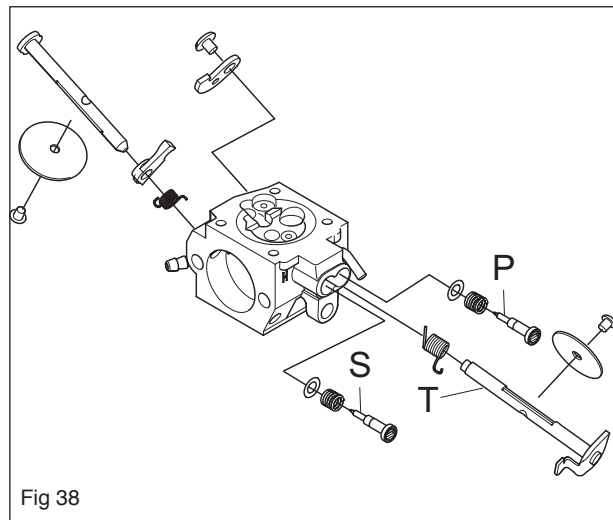

Fig 38
If necessary, dismantle throttle valve T and the High (S) and Low (P) jet screws valve. Remove the shafts with lever arms and springs. See figure 38.
4. That the inlet manifold is intact. See figure 38.
1. If the throttle valve with shaft, lever arm and spring is removed, this must be assembled. The spring is tensioned 1-2 turns. Lubricate the shaft bearings using a light oil. See figure 38.